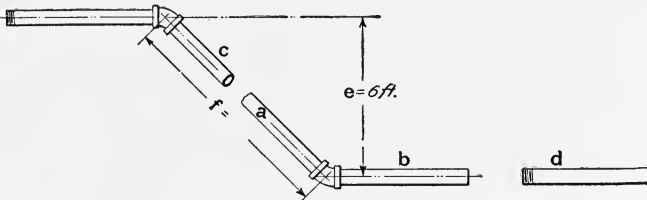

Fig. 103
**Measuring for 45-Degree Connections.**—The usual method in practice of measuring for a 45-degree connection is shown in Fig. 103. Trial pieces, *a* and *b*, are screwed by hand into a 45-degree bend, and the section thus made is held in such a position that the trial pieces align with the trial piece *c* and the main pipe *d*, or on a line where